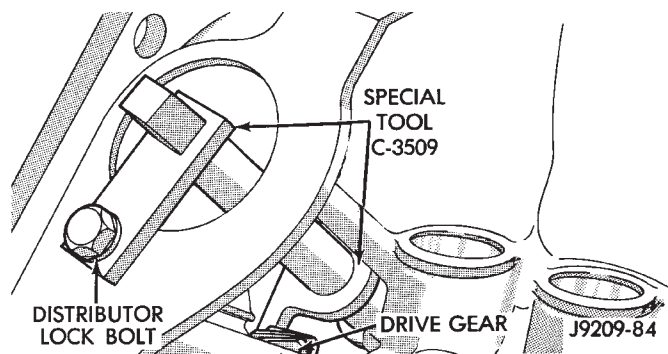

Fig. 34 Camshaft Holding Tool C-3509 (Installed Position)
- (2) Install Camshaft Gear Installer Tool C-3509 with tongue back of distributor drive gear (Fig. 34).